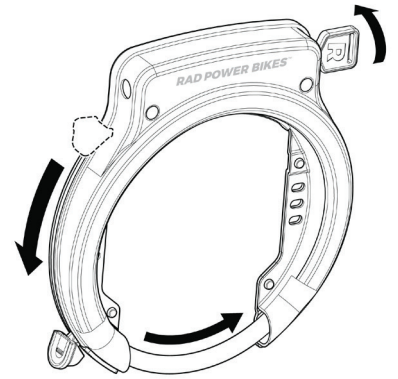

Figure 4 Lock the wheel lock.
- a. To lock the wheel, turn the key clockwise and slide the thumb lever toward the wheel lock opening until the shackle locks in the fully closed position. Then turn the key counterclockwise to lock the shackle in this position (see Figure 4). Make sure the shackle does not interfere with any spokes or the rim of the wheel.